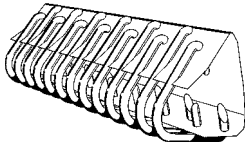
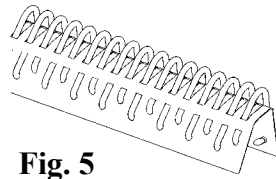

Fig. 4
Fig. 5
- Clipper hooks are available in two carded styles and one Unibar style. Referring to the below drawings, identify the type of lacing you have selected. See Figures 4, 5 and 6.
Insert hooks into hook retainer and secure with lacer pin. If using hooks shown in Figure 4 or 6, remove carding paper. Carding paper as shown in Figure 5 is removed *after* the splice is complete.
- Insert card of hooks into hook retainer. Insert lacer pin through hook loops, but not into the extra deep slots. Turn adjusting lever clockwise until hooks are firmly held in jaws. Remove paper if applicable (Figures 4 and 6 above).